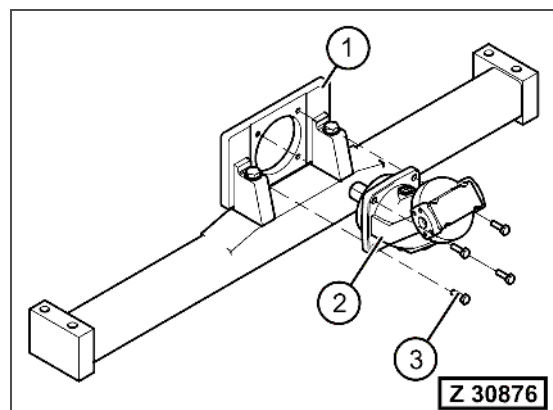

Fig. 3-219
12. Attach the hydraulic motor (Fig. 3-219, Pos. 2) to a crane.
13. Disassemble four mounting bolts (Fig. 3-219, Pos. 3) and pull the hydraulic motor out of the motor carrier (Fig. 3-219, Pos. 1). Remove the hydraulic motor using the crane.